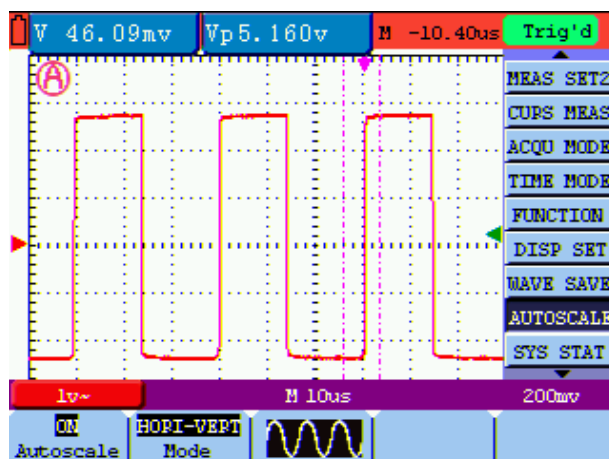

figure 47: Autoscale Horizontal- Vertical multi-period waveforms
4. Press **F3** to choose . Now, you can see a screen that looks like the following figure 47.